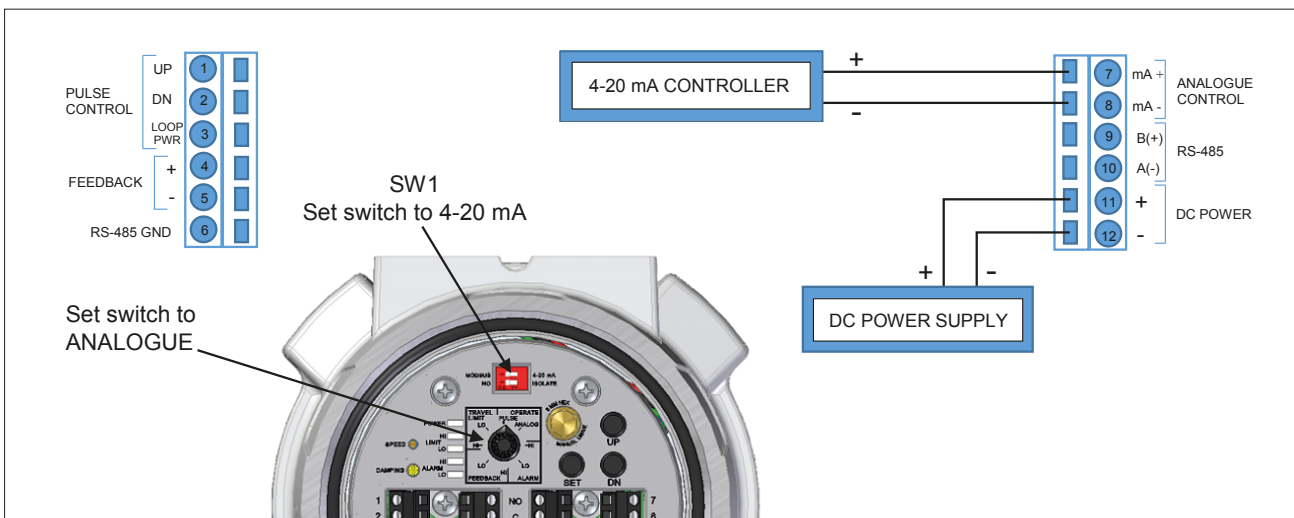

Figure 5 4-20 mA analogue control
- 2.1 Connect a 4-20 mA signal source to the Analogue Control input terminals. (See Figure 5.)